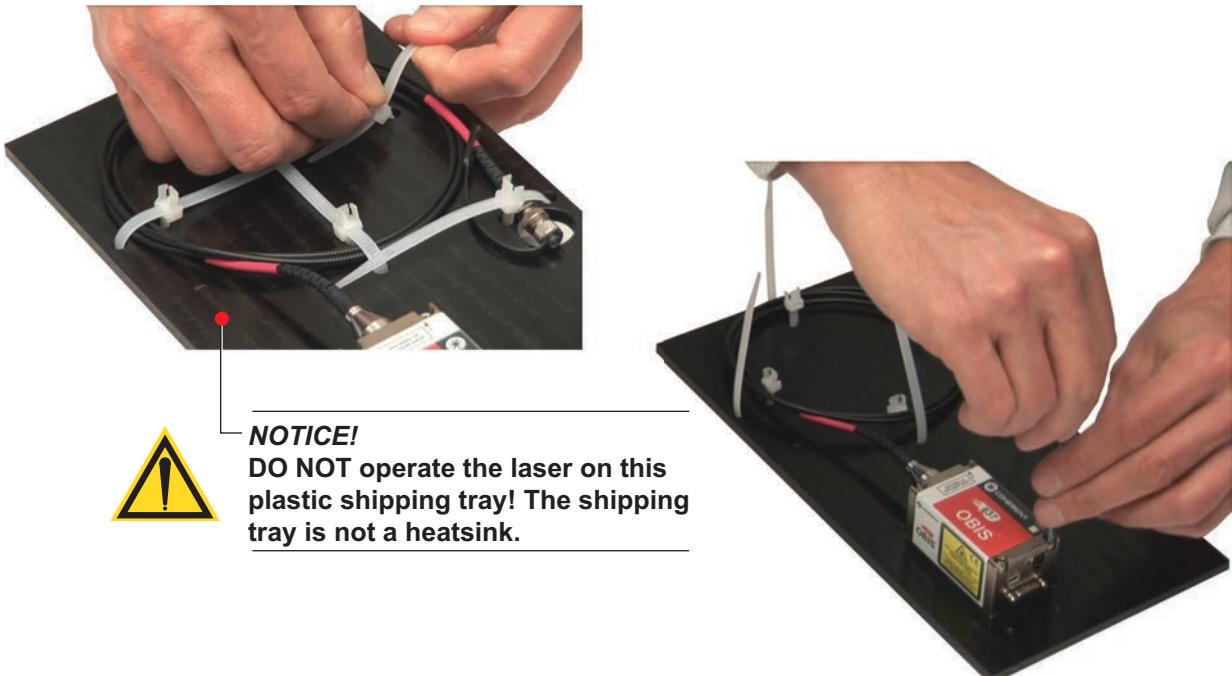

Figure 12-14. OBIS Laser Box Removing the Fiber and the Laser from the Shipping Tray
1. Loosen the removable zip ties to release the fiber and then remove the four screws that anchor the laser to the tray, as shown in Figure 12-14.